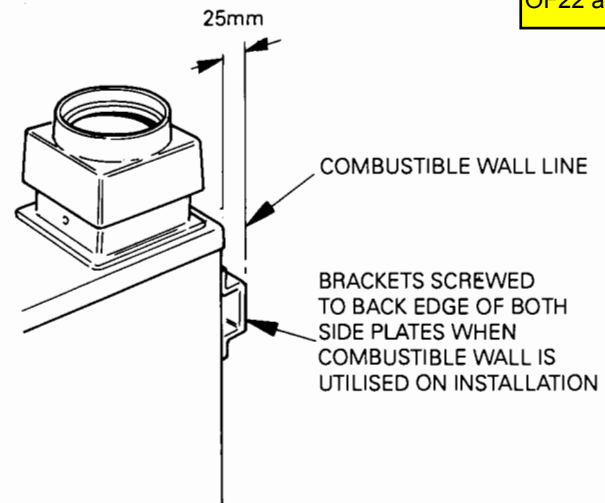

Fig.4 - Clearance Between Cooker and Combustible Wall
5. Appliance rear distance bracket - For use when the appliance is installed near a rear wall of combustible material - See Fig 4.
NOTE: IF THE REAR WALL IS OF COMBUSTIBLE MATERIAL, THERE MUST BE AN AIR GAP OF 25mm BETWEEN THE WALL AND REAR OF APPLIANCE. FIT REAR DISTANCE BRACKET AS SHOWN IN FIG.4.